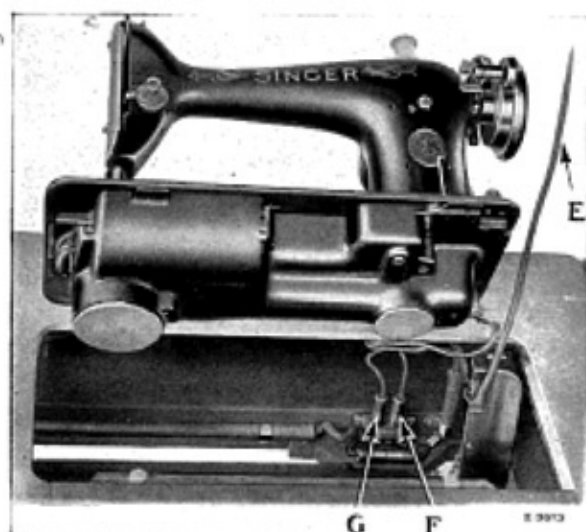
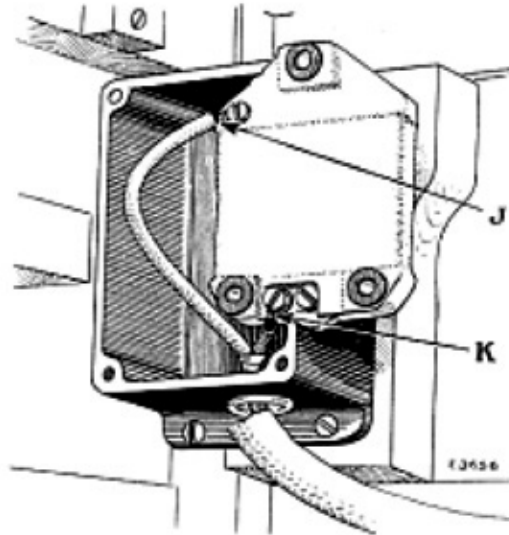

FIG. 33. ELECTRICAL CONNECTIONS
FIG. 34. SHOWING CONTROLLER CONNECTIONS
**Electrical Connections.** The cord for connecting the machine to the electric light socket passes through the lifter plate as shown at E in Fig. 33 and plugs F and G connect to the motor circuit when inserted in the sockets located in the table.
**Speed Controller.** The speed control box (rheostat) is located at the left side of the table directly back of knee lever H (Fig. 32) and is connected to plugs F and G (Fig. 33) by the wires running to the left in Fig. 33. If the controller fails to vary the speed, examine connections J and K (Fig. 34) for any defects, which would cause a short circuit.